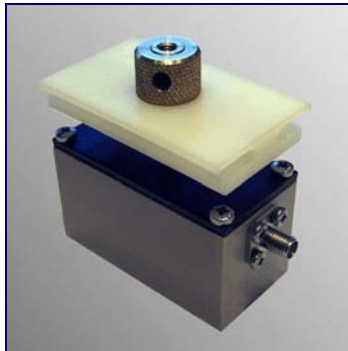

Figure 2.6
1. Attach the nylon flags to the two transducers, as shown in Figure 2.6.